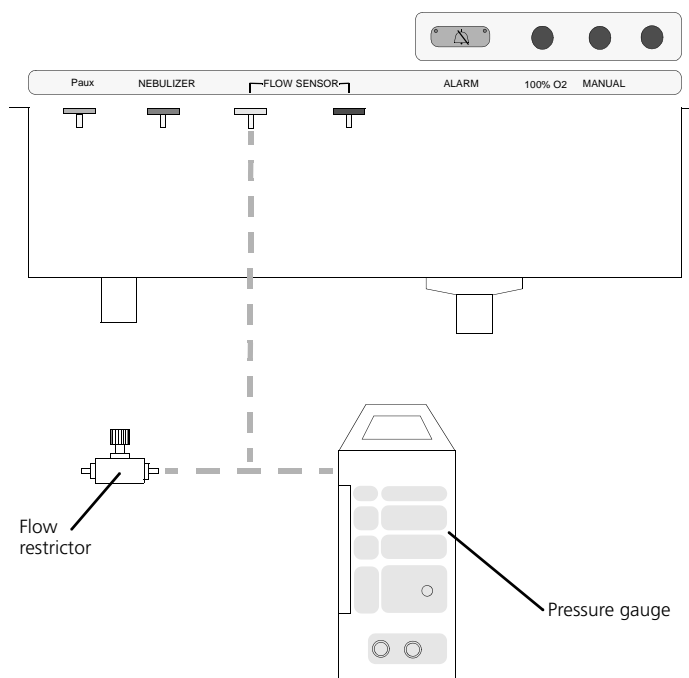

Figure 10-21. Setup for the Flow-Sensor full-scale check
1. Build and connect the tubing setup shown in Figure 10-21. Use a probe suitable for measuring 10 mbar. The tubing is attached to the silver Flow Sensor connector.